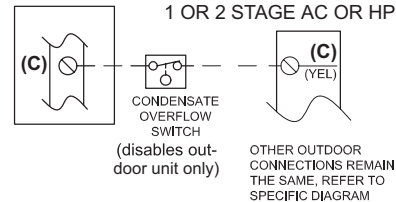
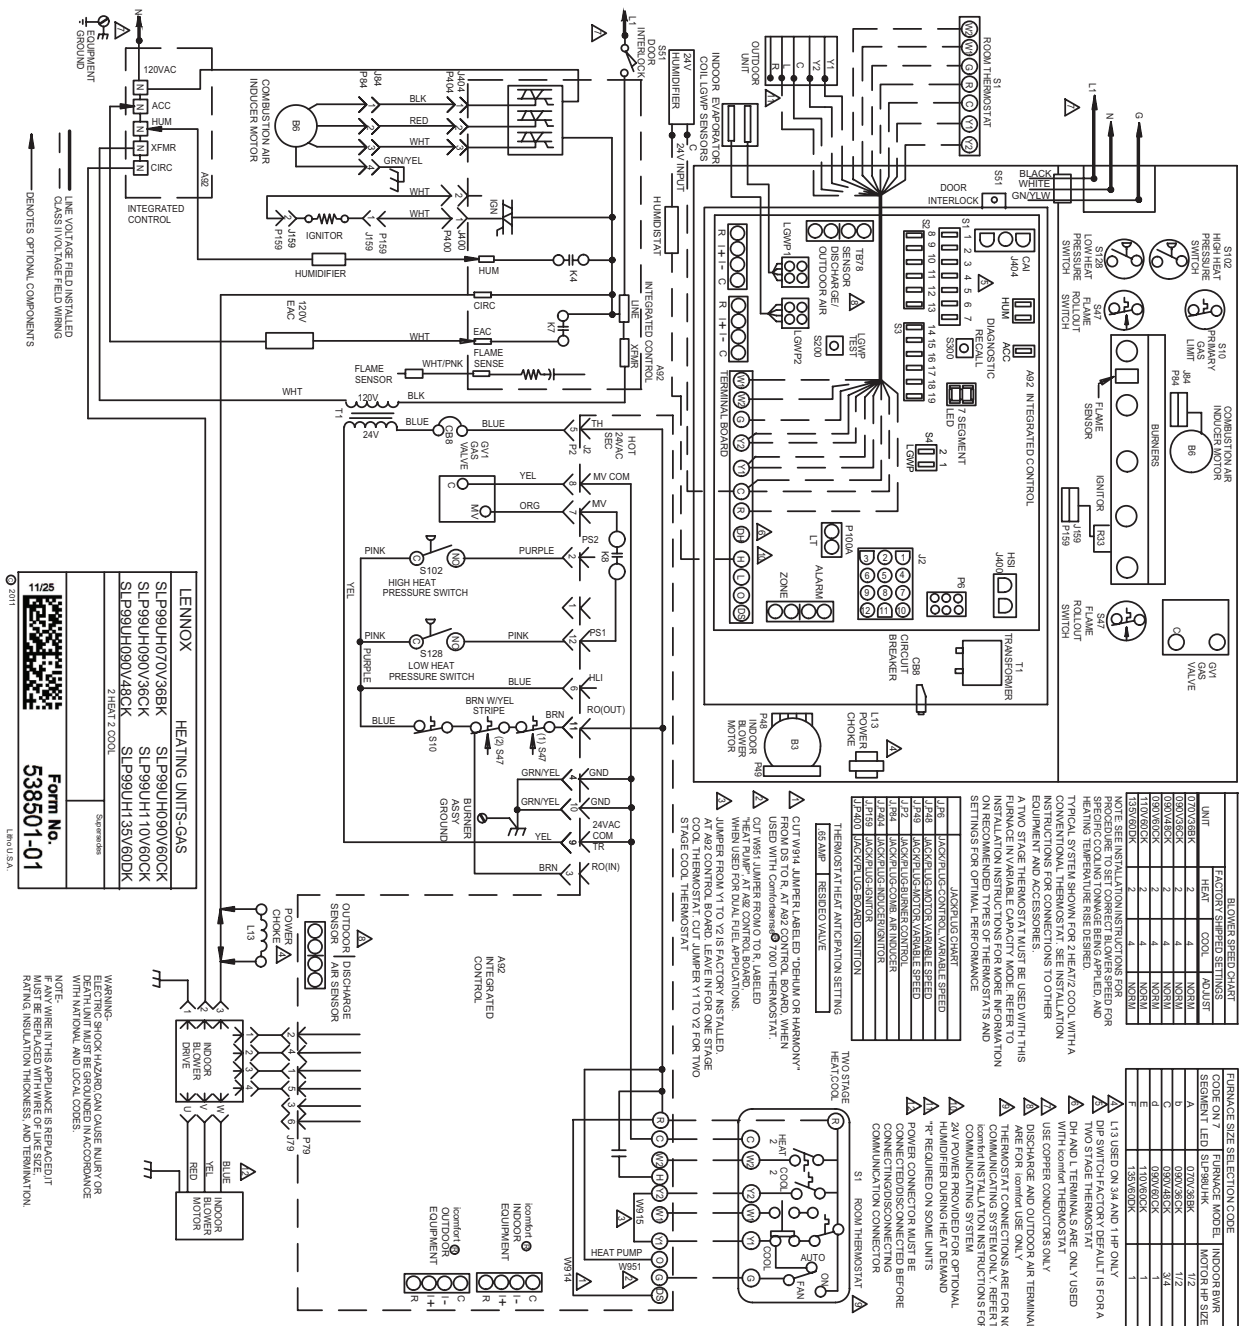
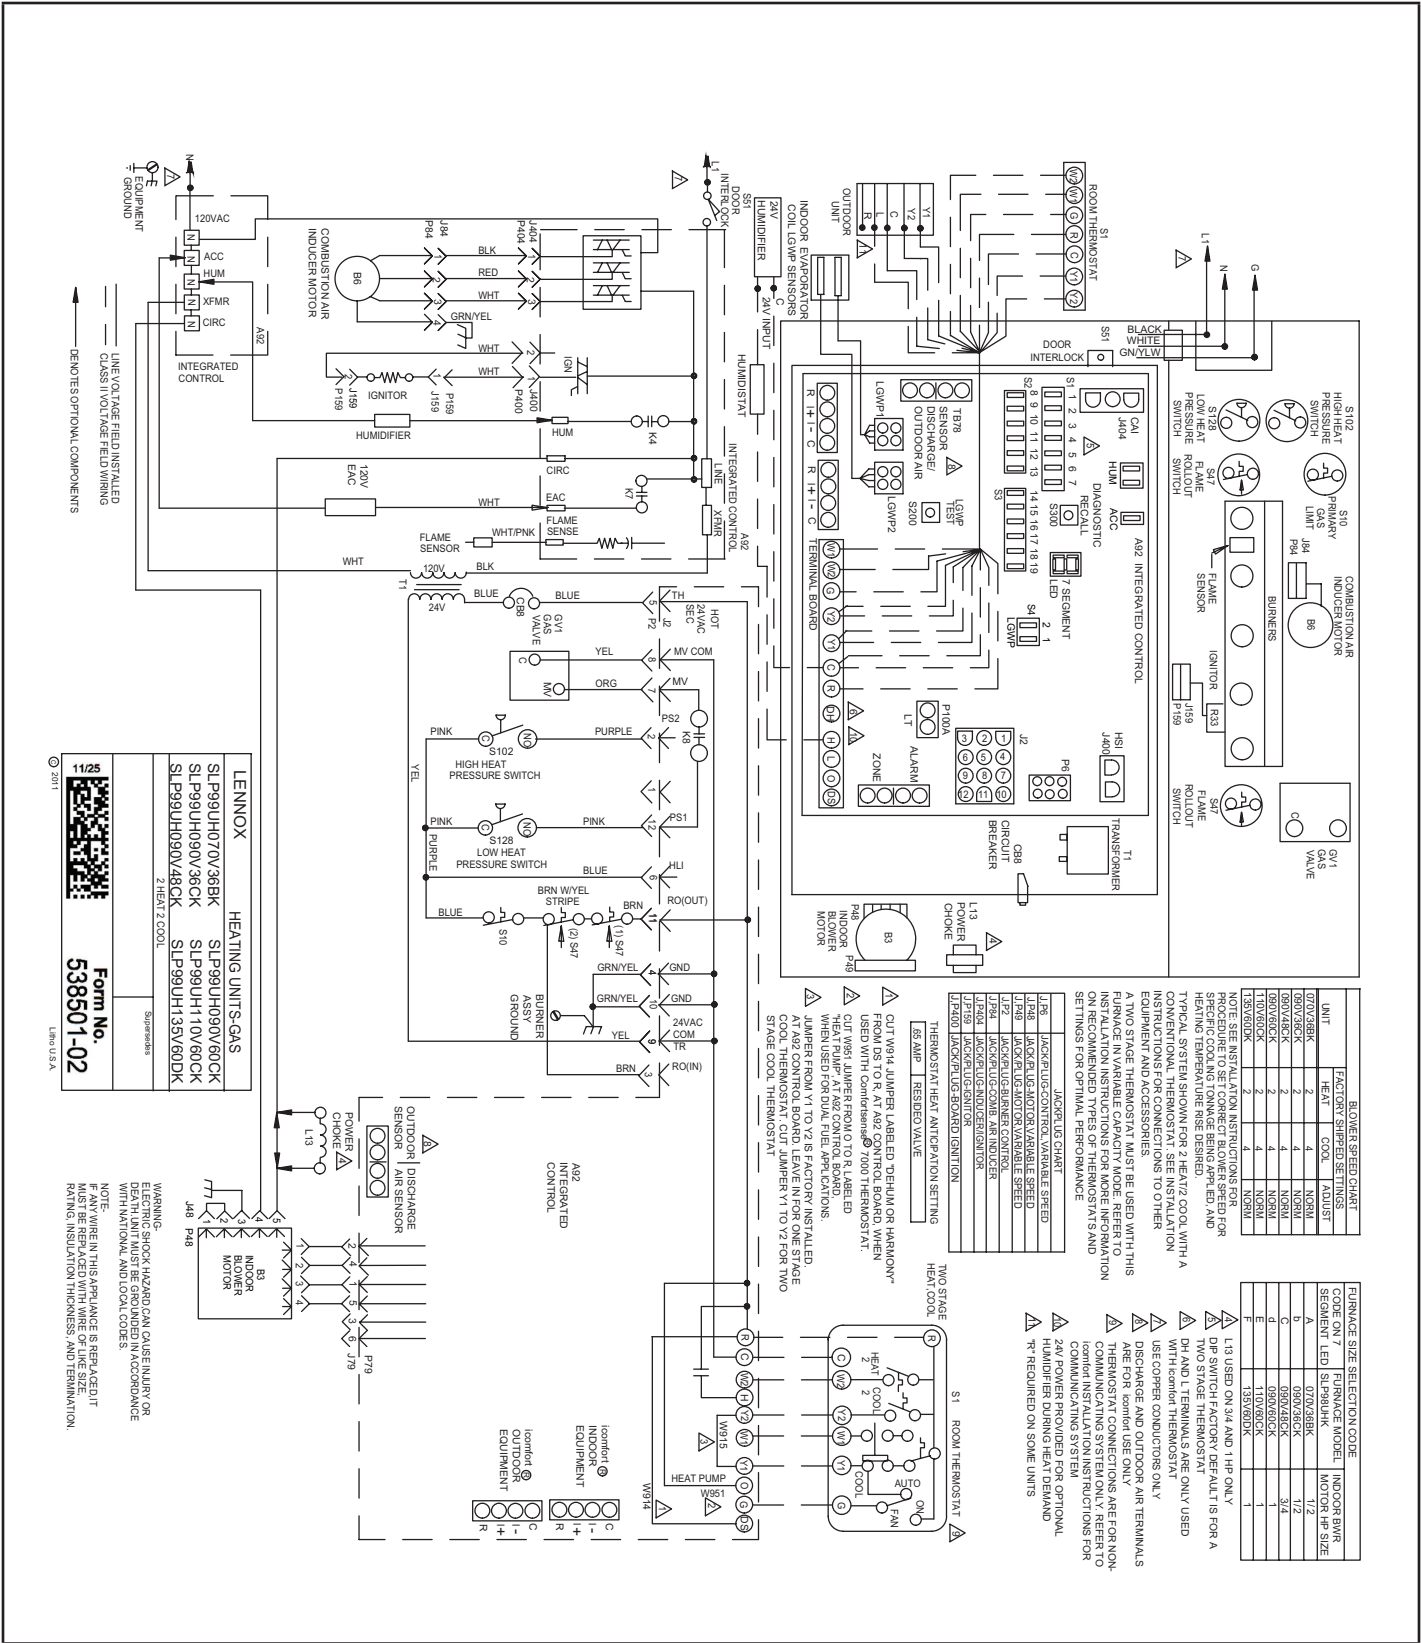

FIGURE 53
FIGURE 54
FIGURE 55
See FIGURE 52 and FIGURE 53 for thermostat wiring in communicating applications. TABLE 15 shows DIP switch and on-board link settings for non-communicating thermostat applications. Typical wiring schematic is shown in FIGURE 54 and FIGURE 55.
- 5 - Complete the wiring connections to the equipment. Use the provided unit wiring and field wiring diagram shown in FIGURE 54 and FIGURE 55 and TABLE 15. Use 18-gauge wire or larger that is suitable for Class II rating for thermostat connections.